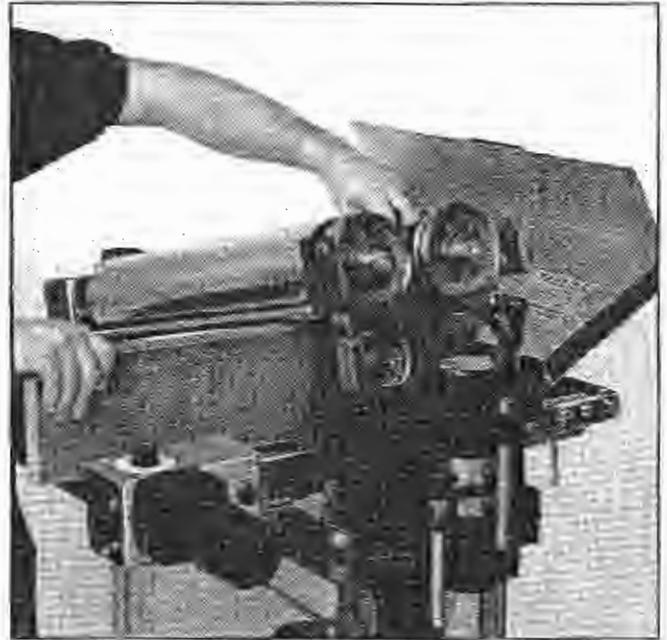

Fig. 32. Supporting drums with 2x6 on edge.
5. Lift the right (inboard) side of drums and place a 2x6 on edge under the drums (Fig. 32). Loosen and remove the V-belt pulleys from drum shafts. **Important:** Make sure to note the location of the pulleys. Also measure the distance from pulley edge to the drum support casting to use as a reference when reinstalling pulleys so they will be properly aligned.